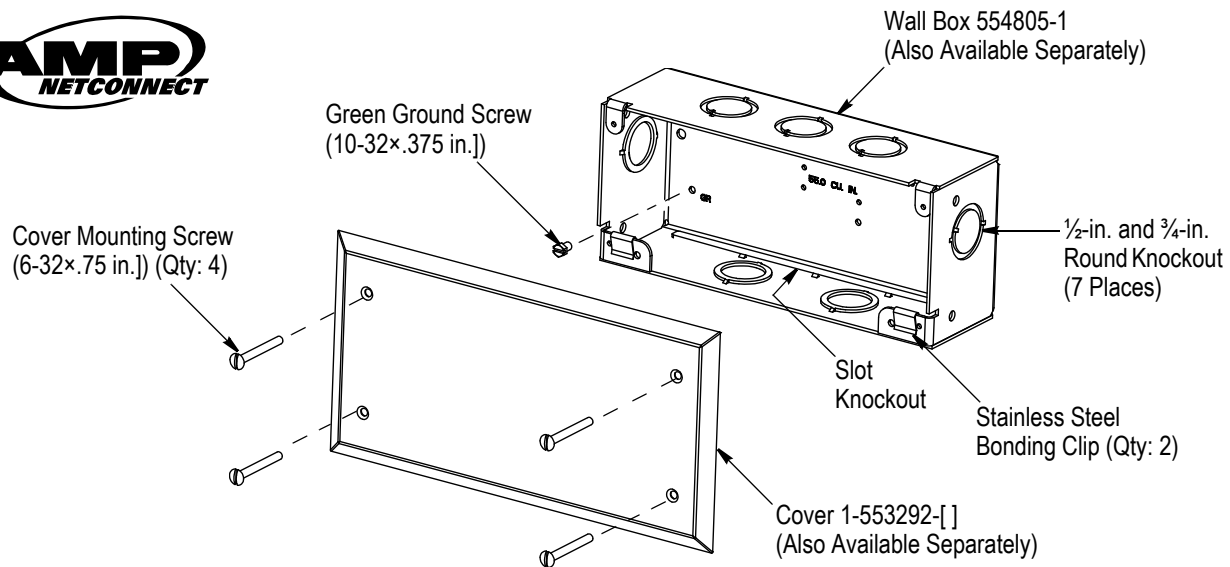

Figure 1
stainless steel bonding clips. The wall box features seven 1/2-in. and 3/4-in. round knockouts for round cable entry point, and slot knockout for the undercarpet cable exit point. See Figure 1.
1. For power cable application, ensure that the two stainless steel bonding clips are attached to the wall box as shown in Figure 1. Communications cable application does not require the bonding clips.
2. Using the four cover mounting screws, secure the cover to the wall box. See Figure 1.